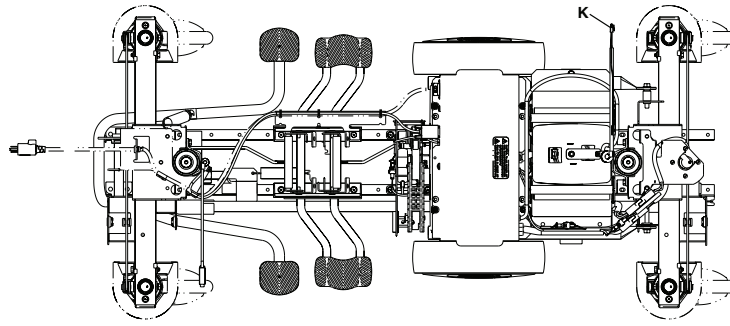

Figure 20 – Coil cord
16. Using diagonal pliers, cut the two cable ties that secure the coil cord (K) to the battery on the patient left side (Figure 20).